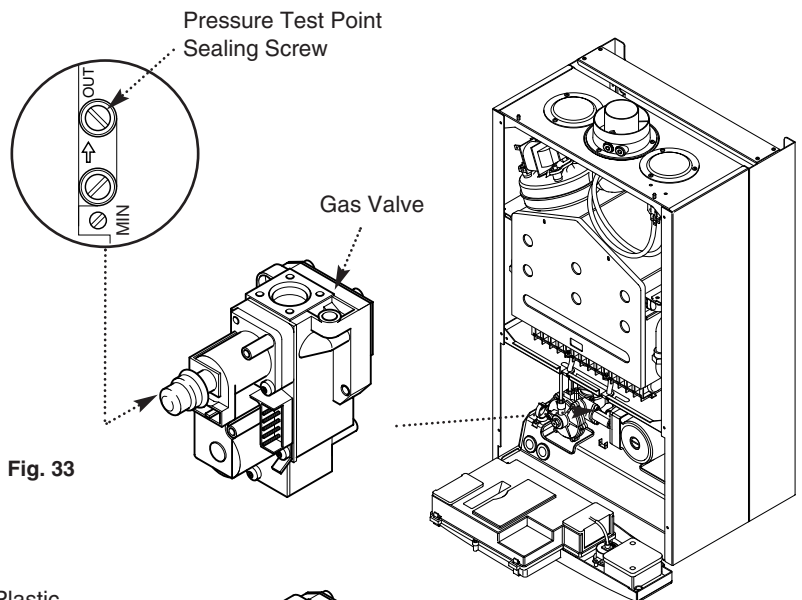

Fig. 33
3. Slacken the pressure test point sealing screw on the gas valve and connect a pressure gauge (Fig. 33).